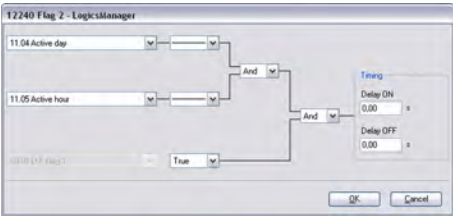

Fig. 159: LogicsManager function "Flag 2"
2. ➤ Configure the LogicsManager function "Flag 2" (parameter 12240 ↗ p. 307) as shown in (Fig. 159).